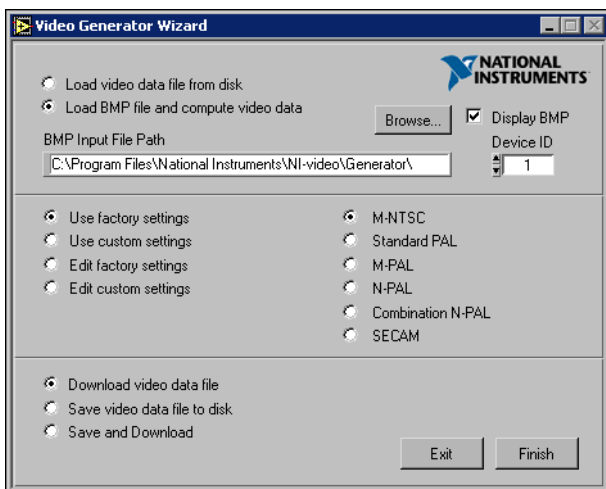

Figure 7. NI Video Generator Wizard
3. Launch the NI Video Generator Wizard, shown in Figure 7, by selecting **Start»Programs»National Instruments Composite Video Generator»Video Generator Wizard**.
4. Generate a video signal based on a bitmap image using the factory settings. Complete the following steps while referring to Figure 7.